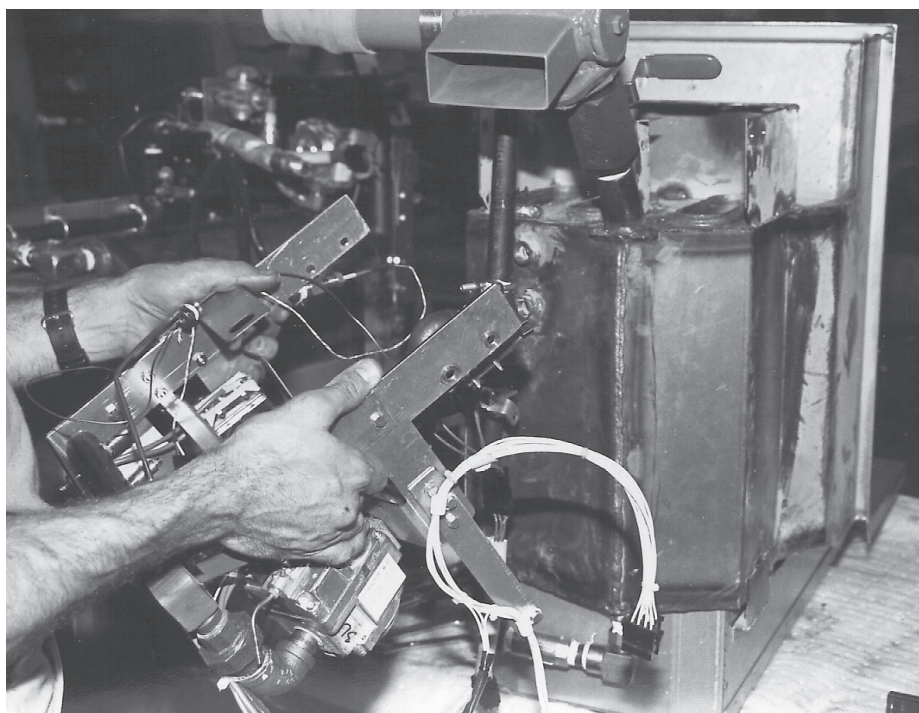

Fig. 92
30. Pull the manifold assembly from the fryer. (Fig. 92)